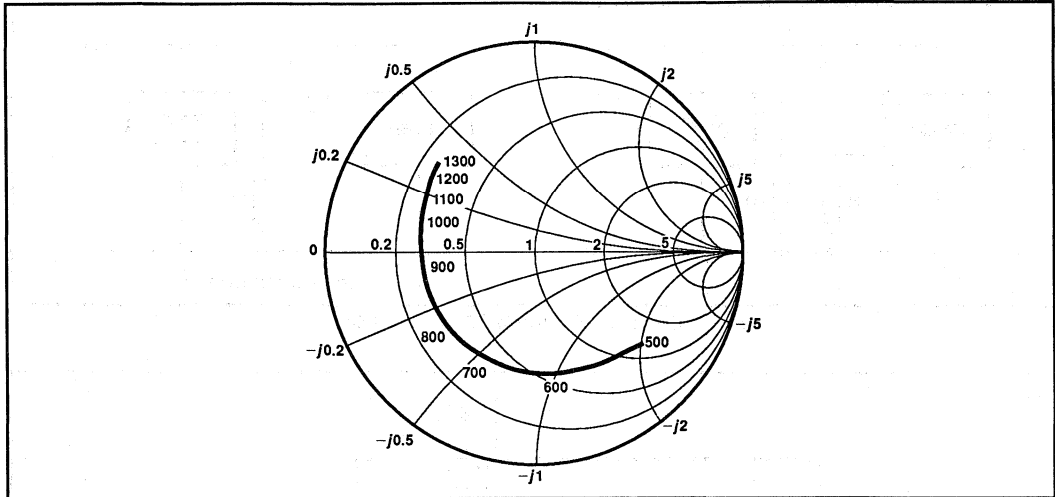

Fig. 4 Typical input impedance. Test conditions: supply voltage = $-5.2V$, ambient temperature = $25^{\circ}C$, frequencies in MHz, Impedances normalised to 50
4. The input impedance of the SP8605/6 is a function of frequency, see Fig. 4.